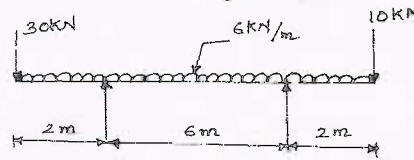

Fig.Q.5(b)
b. Draw SFD and BMD for the beam shown in Fig.Q.5(b).